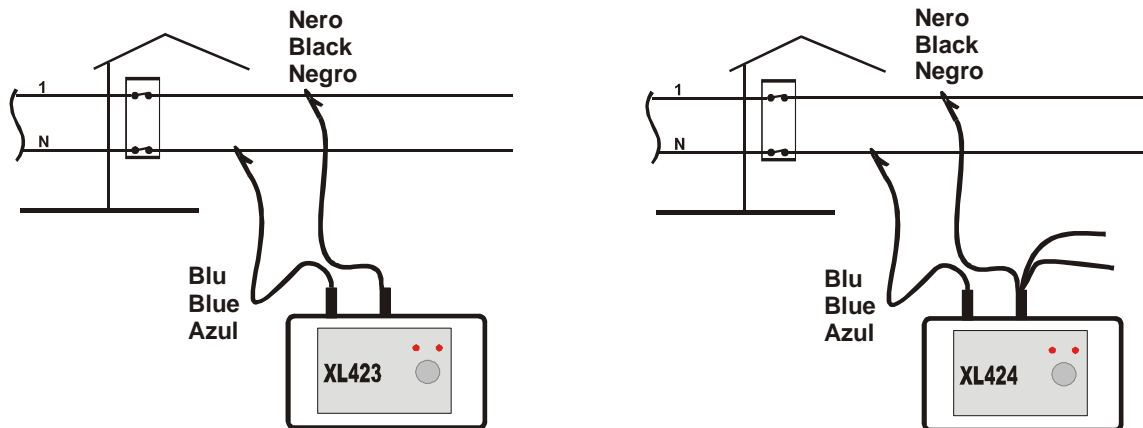

Fig. 2: Instrument's connection in Single Phase plant
3. Connecting alligator clips in the plant as indicated in Fig. 2.